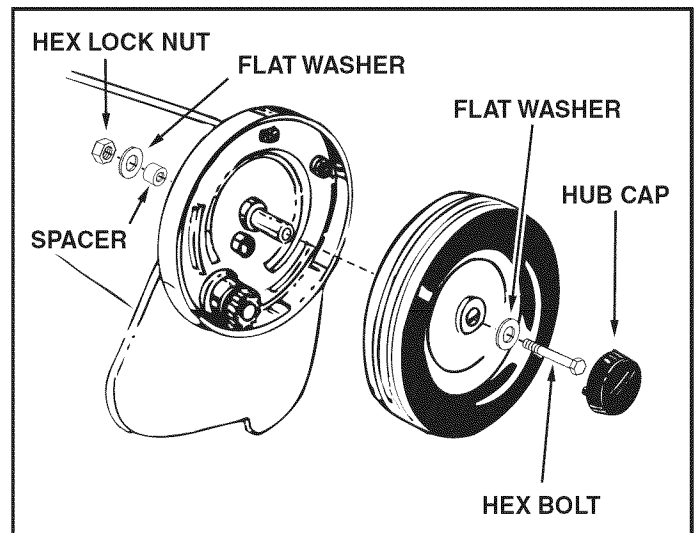

FIGURE 20
- Every two years, remove the wheels and clean the gears found inside the wheel housing. After cleaning, lubricate with an even coat of light grease. To remove the wheel, pop off the hub cap using a screwdriver and remove the lock nut, flat washer and spacer from the end of the bolt inside the sweeper. See figure 20.